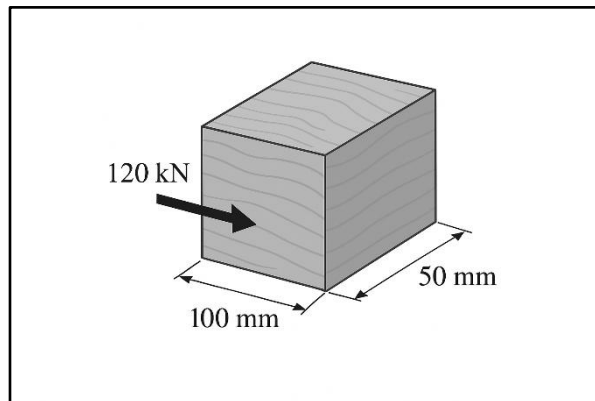

Figure 2(b) / Rajah 2(b)
- CLO1 (b) In Figure 2(b), a wooden block with a rectangular cross-section is subjected to a horizontal shear force of 120 kN. The Modulus of Rigidity (G) of the wood is given as 1.2 kN/mm^2 . Calculate: